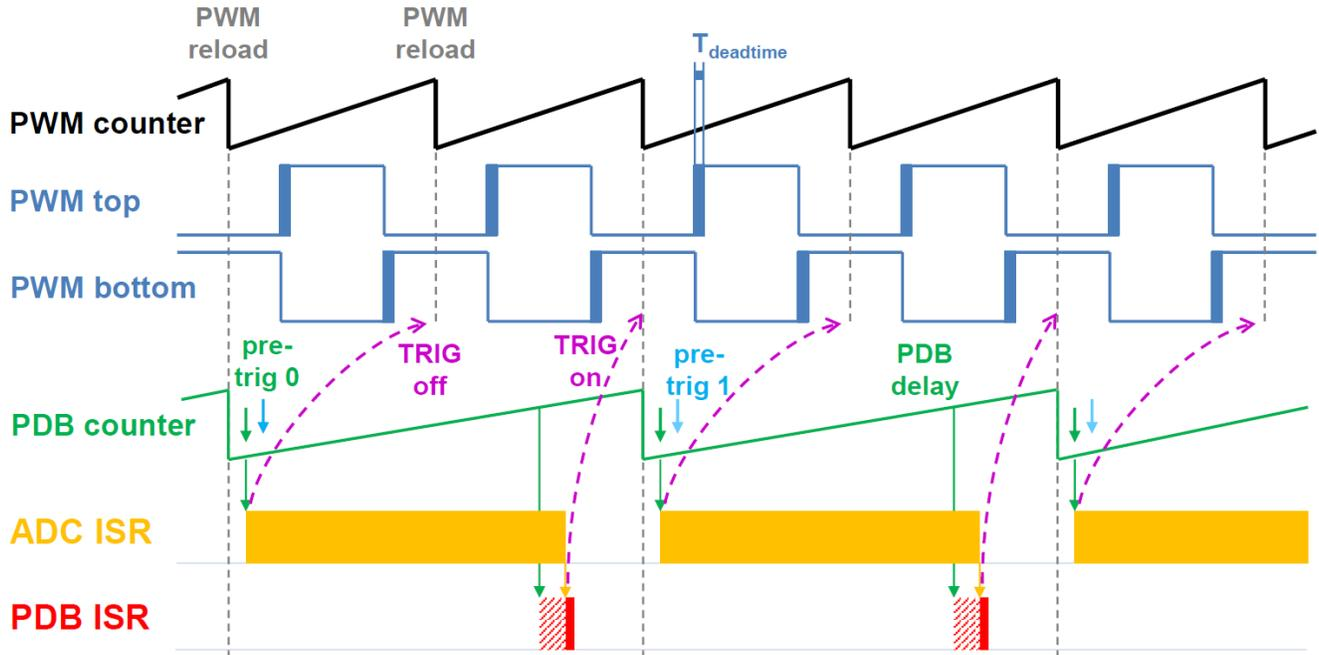

Figure 28. Hardware timing and synchronization on KE1xZ
A correct and precise timing is crucial in motor-control applications. The motor-control dedicated peripherals handle the timing and synchronization on the hardware layer. The timing diagram is shown in Figure 28.
- The PDB Delay interrupt is enabled. This interrupt is generated when the PDB\_IDLY is reached. This interrupt enables the FTM\_TRIG (see Figure 28).